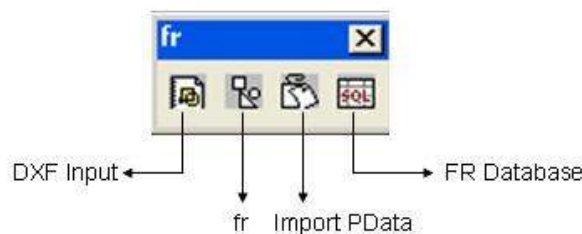
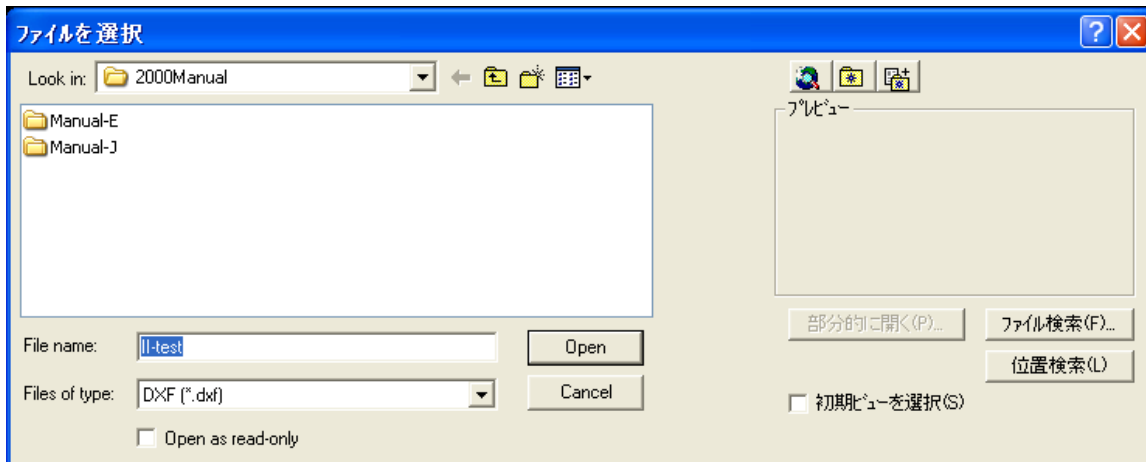
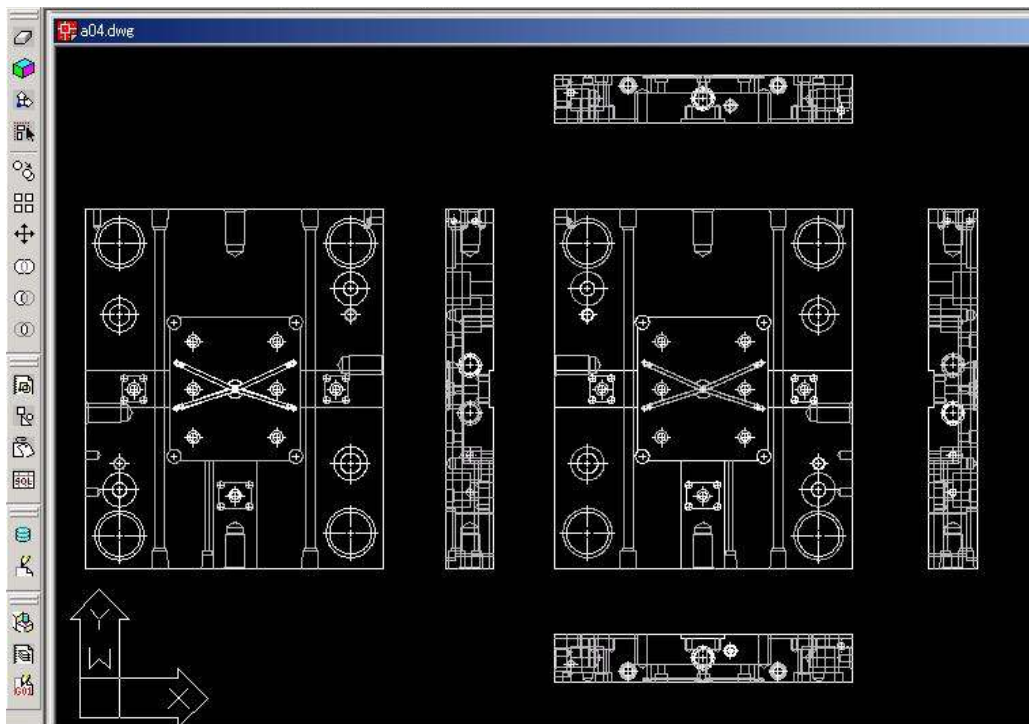

Figure 2-14. Feature Recognition Toolbar
Figure 2-15. DXF file import dialog box
Figure 2-16. Example drawing imported from DWG or DXF file
2.7.2.2. Open the file using OPEN function of AutoCAD if the drawing is prepared in DWG format. User has to import the drawing in DXF format by clicking the “DXF Input” icon in the “fr” toolbar, as shown in Figure 2-14. A dialog box to locate the file will be shown in Figure 2-15, then click OPEN. An example of imported design drawing is shown in Figure 2-16.